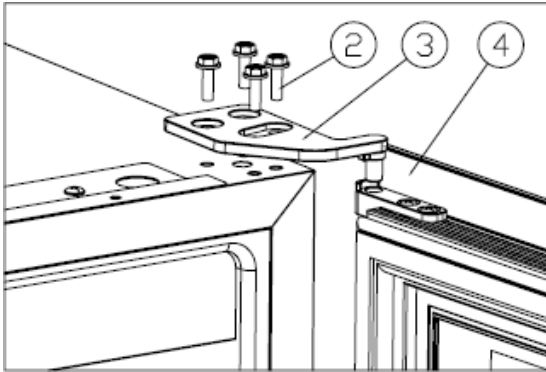

Figure 1
- ✧ Unscrew the M5\*16screws②, dismantle the right upper hinge, and remove the door. [Figure 1].